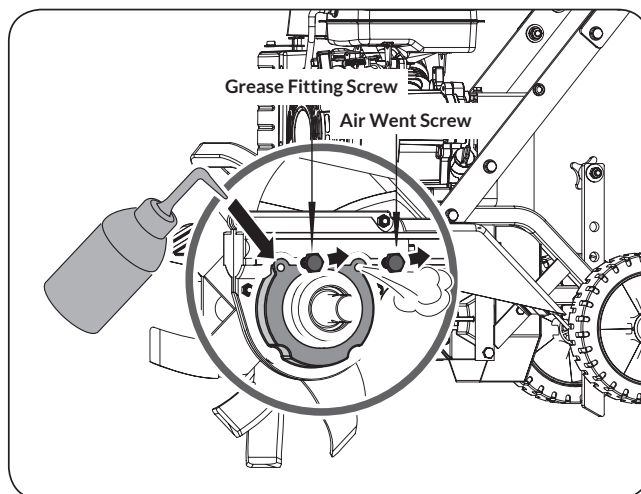

Figure 11
2. Remove the grease fitting screw and air vent screw to fill the worm gear housing through the lower grease fitting hole until the grease begins to come out from the upper air vent hole. (See **Figure 11**)